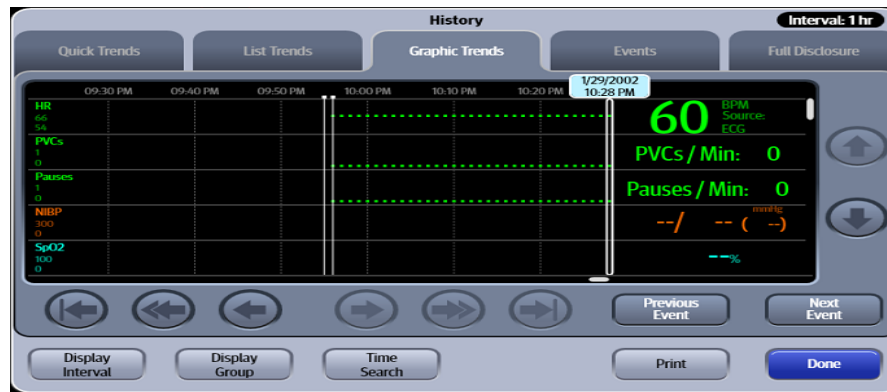

FIGURE 20-3 Example History Dialog (Graphic Trends Tab)
2. Select the **Graphic Trends** tab (as shown in FIGURE 20-3).
NOTE: The display interval in FIGURE 20-3 is configured for one (1) hour. Refer to "Configuring a Display Interval" on page 20-16 for more information.